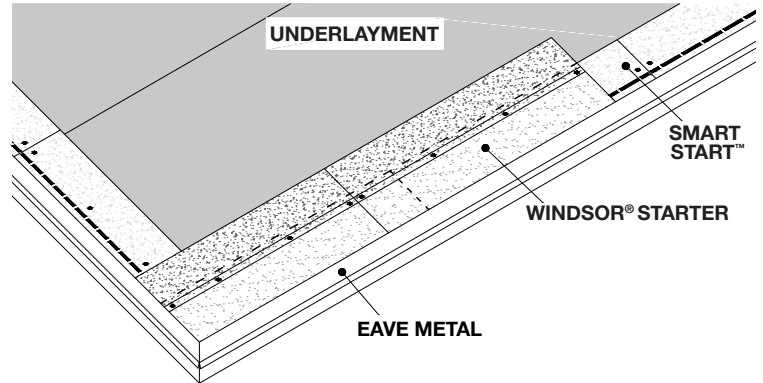

Figure 7 - Application of Windsor® Starter Shingles over Smart Start® at the Eave Edge of Roof
Fasten with four (4) nails placed in-between the nailing lines: one (1) nail 1" (25 mm) from each end and the other two (2) evenly spaced on the same line as the end fasteners. (See Figure 7)